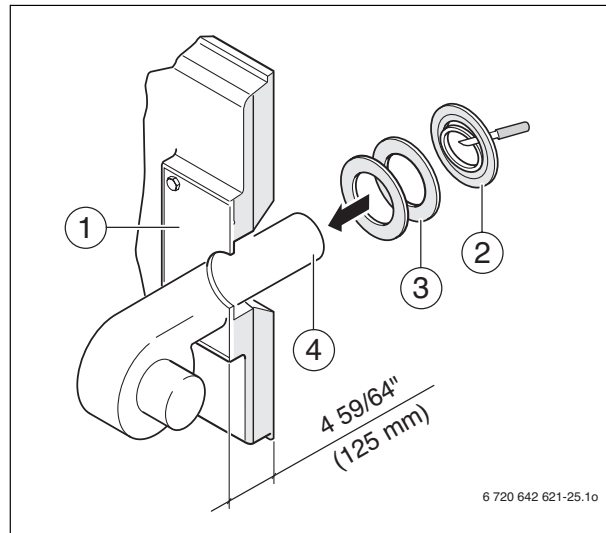

Fig. 52 Mounting the burner
- ▶ Drill or cut the burner plate (→ Fig. 52, [1]) to match the required burner tube diameter $\varnothing 10 \frac{5}{8}$ inches (270 mm).
- ▶ Cut out insulating rings to match the burner tube diameter (→ Fig. 52, [2]).
- ▶ Fill the remaining gap between the burner door thermal insulation and the burner tube (→ Fig. 52, [4]) using the appropriate insulating rings (→ Fig. 52, [3]).